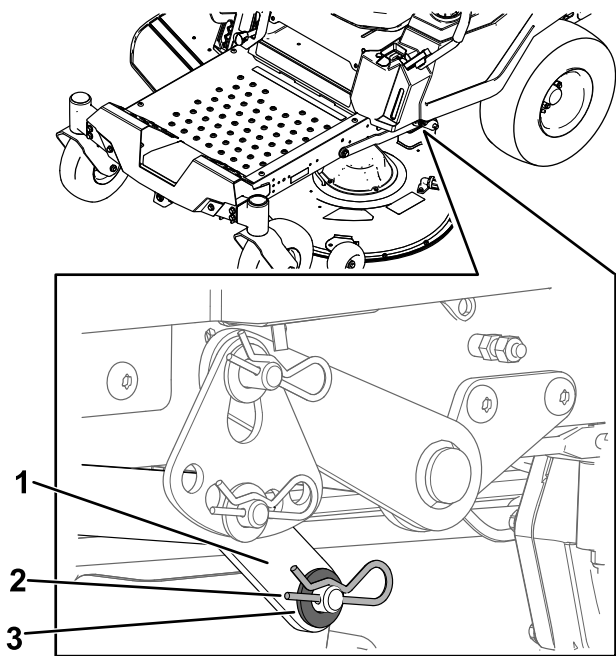

Figure 74
7. On 1 side of the machine, remove the washer and hairpin cotter from the deck pin (Figure 74).
8. Remove the lift arm from the deck pin (Figure 74).
5. On 1 side of the machine, lift the rear of the mower deck and install the lift arm to the deck pin (Figure 74).
6. Install the lift arm using the washer and hairpin cotter (Figure 74).